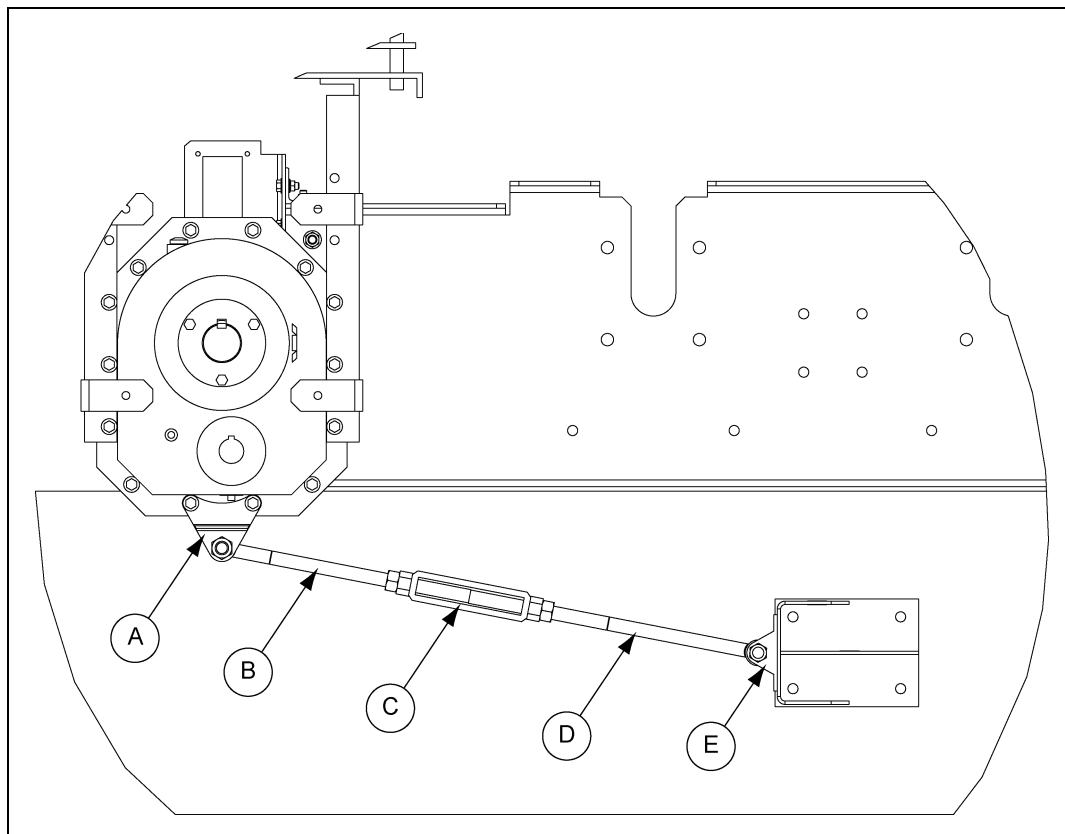

Figure 4L
1. Install the torque arm (B) between the two plates that are located on the bottom of the reducer drive.
3. Attach the other end to the torque arm bracket (E) on the conveyor using two bolts, washers and lock nuts.
4. Tighten the torque arm (C) by turning the turnbuckle (C). Adjust the position of the reducer.
The reducer (A) should be in a vertical position. *(See Figure 4L.)*
5. The torque arm bracket (E) is mounted under the first intermediate section.